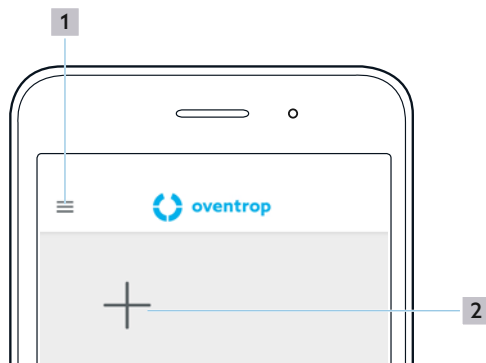

Fig. 12: ClimaCon F app - Start screen
- ▶ After the room thermostat has been removed, the app switches to the start screen (Fig. 12 on page 14).